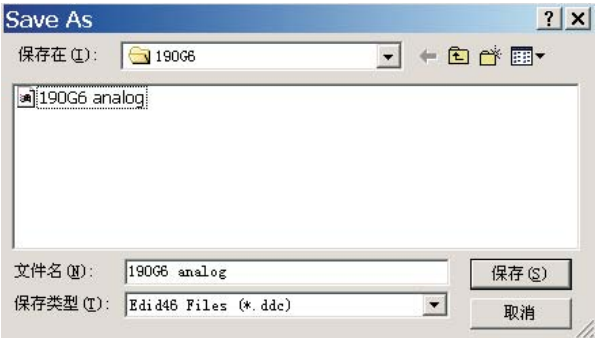

Fig. 25
- Click (Save) icon (or click "file"-> "save as") from the tool bar and give a file name as shown in Fig. 25.